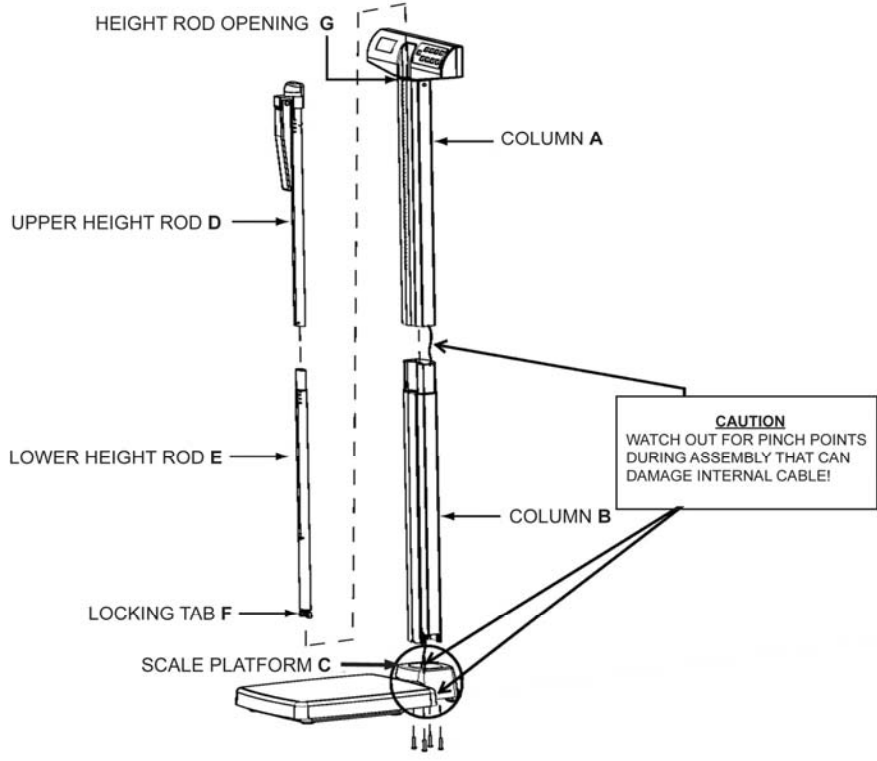

Figure 1
Assembling the 500KL Scale (Refer to Figures 1 - 10)
1. Carefully remove the scale platform **C** and columns **A** and **B** from the carton. Place the scale platform and columns on a flat, level, and dry surface (see Figure 1).
2. Remove the 4 small screws and washers from the bottom of column **B** (see Figures 1 & 2).
3. Locate cable connector inside column **A** (see Figures 1 & 3).
4. While holding column **A**, slide the cable connector through the top of column **B**. The top of column **B** has a notch (see Figures 1 & 5).
5. Plug the cable connector into the RJ jack, located on the scale platform **C** (see Figures 1 & 4).
6. Align column **A** and column **B**. Snap the locking tab into place. Ensure that the locking tab is locked securely into place (see Figures 1 & 5).
8. Insert the 4 small screws through the bottom of the scale platform **C** screw holes and into column **B**. Ensure that washers are located between the screw heads and the scale platform **C** screw holes (see Figures 1, 6, & 7).
9. Using a Phillips head screwdriver, tighten the screws to secure column **B** to the base of the scale platform **C** (see Figure 1, 6, & 7).
10. Locate the upper height rod **D** and lower height rod **E** from the carton (see Figure 1).
12. Position the bottom of the fully assembled height rod into the height rod opening **G** at the top of the upper column **A**. Press locking tab **F** inward to insert the height rod into the height rod opening **G** (see Figures 1 & 10).